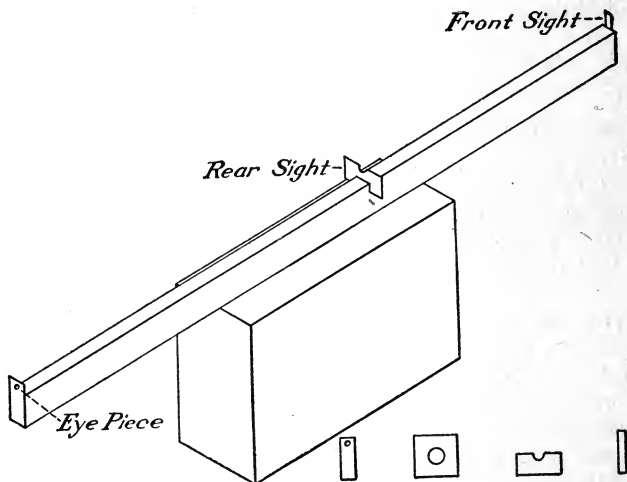

FIG. 7.—Sighting Bar.
**56. SIGHTING APPARATUS.** (1.) Sighting Bar (See Fig. 7). (a) A bar of wood about 1 by 2 inches by 4 feet with a thin slot one inch deep cut across the edge about 20 inches from one end;